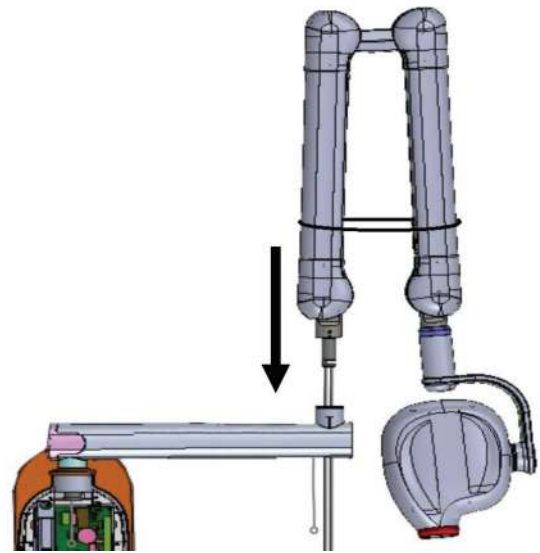

Figure 64
- Holding the scissor-arm close to the straight arm, insert the cables inside the straight arm (free end) through the top hole of the straight arm till it comes out at the free end of straight arm and slowly insert the Scissor-Arm assembly into the straight arm without damaging the cables as shown in Figure 64 .